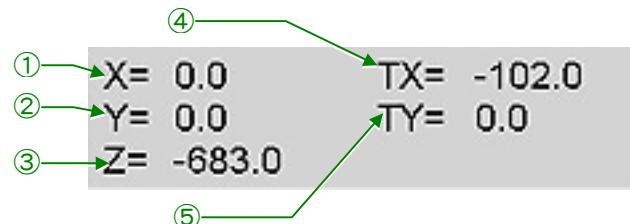

Fig. 4.23 Right main screen
- ① Date of the photographing
- ② Film information ( Fig. 4.23)
- Text: The text printed on the film (Photo screen ⑥)
- Number: The film number printed on the film (Photo screen ⑤)
- ③ The total number of the photographs
- ④ Photographing condition ( Fig. 4.23)
- Exposed: Exposure mode when photographing is performed (Photo screen ②)
- Exp. Time: Exposure time when photographing is performed (Photo screen ④)
- Curr. Density: The current density on the fluorescent screen when the photographing is performed (Photo screen ③)